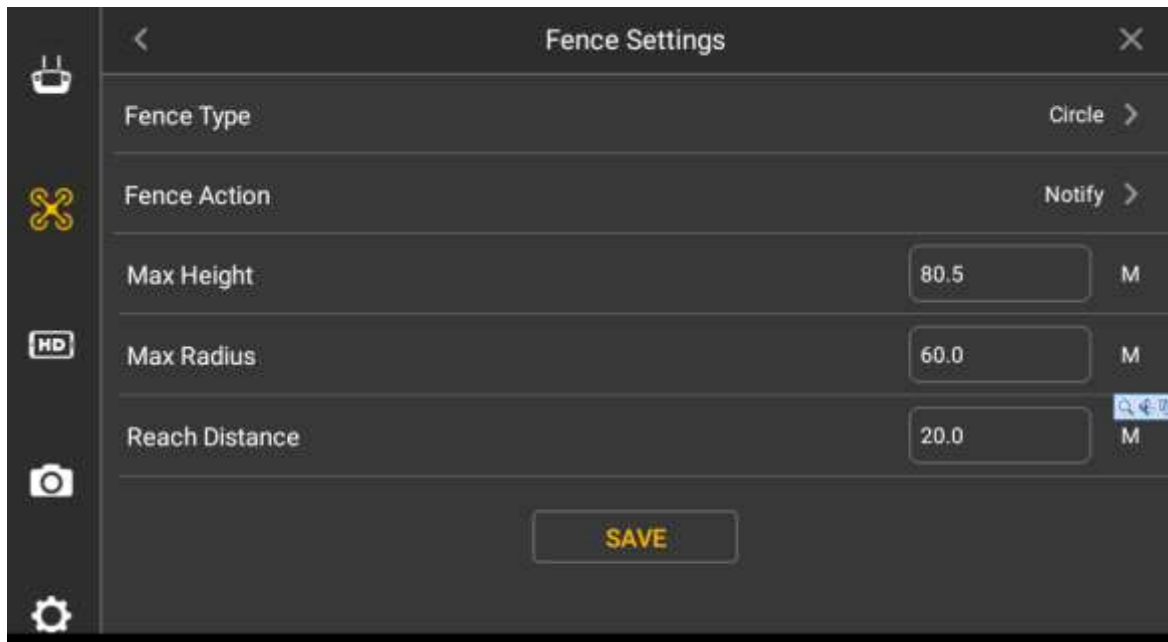

Figure 4-22
Step 1 Select "Settings > Flight Control Settings > Fence Settings". The system will display the interface of "Fence Settings", as shown in Figure 4-22.